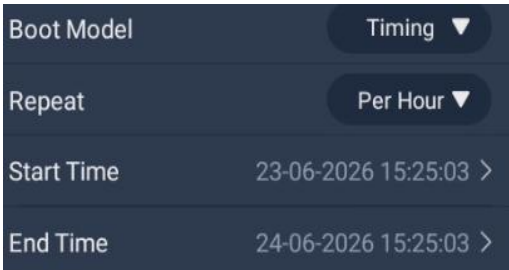

Figure 6-3-1-10 Per Hour Schedule
- ③ If the repeat frequency is set to “Daily,” as shown in Figure 6-3-1-11, measurements will be taken automatically every day at the set start time (year, month, day, hour, minute, second) and will continue until the set end time (year, month, day, hour, minute, second), at which point the repetition will stop.